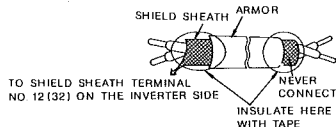

Fig. 3 Preparation of Shielded Cable Ends
- (1) The wiring for the control signals (terminal TC1 to TC4) of the analog reference card PAI14B should be separated from main circuit wiring and other power lines.
- (2) Use the shielded lead for control signal wiring and terminate the cable end as shown in Fig.3 (to prevent malfunction due to noise). Wiring length should be 10m or less
- (3) If any of control signal input terminals TC1 to TC3 are not used, be sure to connect them to 0V terminal (TC4).